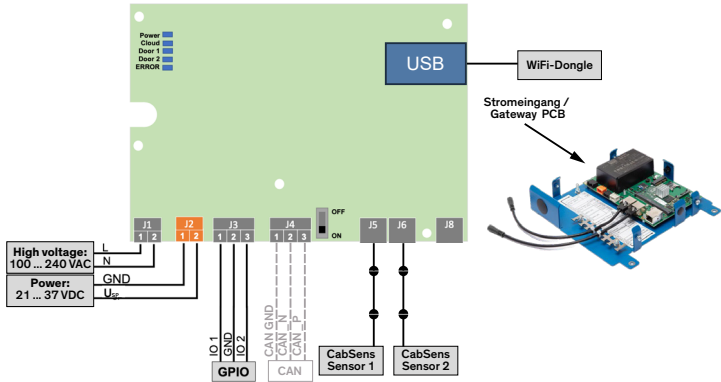

Figure 4: Electrical connections CabSens controller
The CabSens controller can be manually configured via an ethernet IP interface connection and a web browser. To start the configuration procedure the WiFi dongle must be inserted in the USB interface of the CabSafe controller (Figure 4). The CEDES document (119 130 Configuration Manual CabSens system) provides detailed information about the configuration procedure.
Principal set-up of a cegard/Smart CGSM-C controller and the connections are shown in Figure 4. Power can be provided by either high voltage (J1) or low voltage (J2).
A CAN interface is shown in Figure 4. This interface is in the current release not enabled. Please contact your nearest CEDES subsidiary for more information.
The CabSens controller can be either supplied by high power (100 ...240 VAC) or by low power (21 ... 37 VDC) and external connections are shown in Figure 4.
The CabSens controller has two outputs (IO1 and IO2 in Figure 4) which can be connected to the elevator controller. These two outputs provide the same information with opposite polarity.
- ▶ For proper function of the CabSens system connect the Ground (GND, plug J3 – pin 2 in Figure 4) to the GND (0 V) of the 24 VDC input of the elevator controller.
- ▶ Install the WiFi dongle to the USB interface of the controller (Figure 4), connect to the controller according to Chapter 5.11 and follow the configuration process described in the CEDES document: 119 130 Configuration Manual CabSens system.